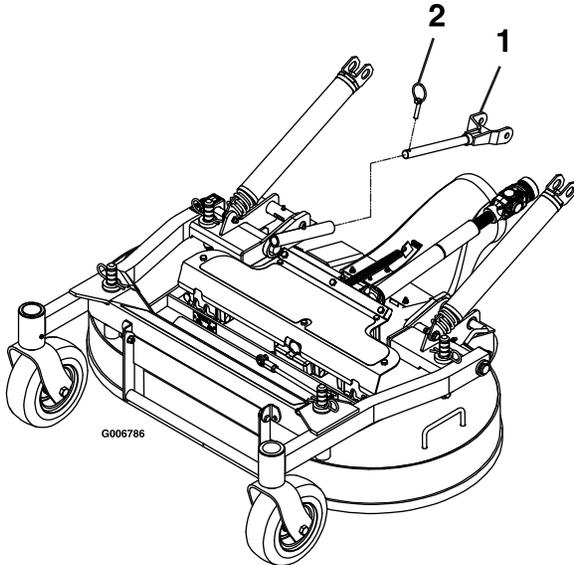

Figure 76
- Remove the lynch pins at front of push arms on both sides of the machine (Figure 76).
- Secure the push arms with the lynch pins on the left and right sides of the machine (Figure 76).